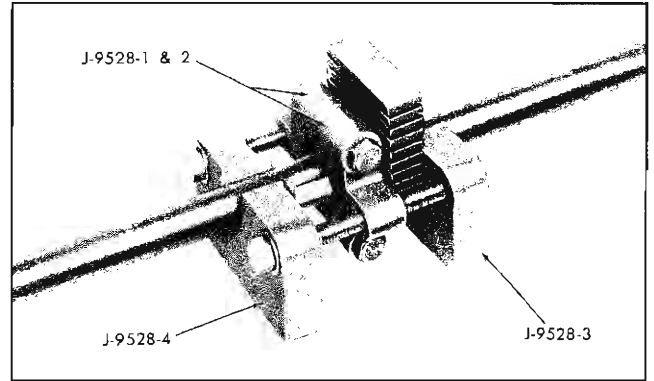

Fig. 4-24 Tool Positioned to Install Bearing
4. Position J-9528-4 in place and install bolts through J-9528-1 & 2 and into J-9528-3 (Fig. 4-24).